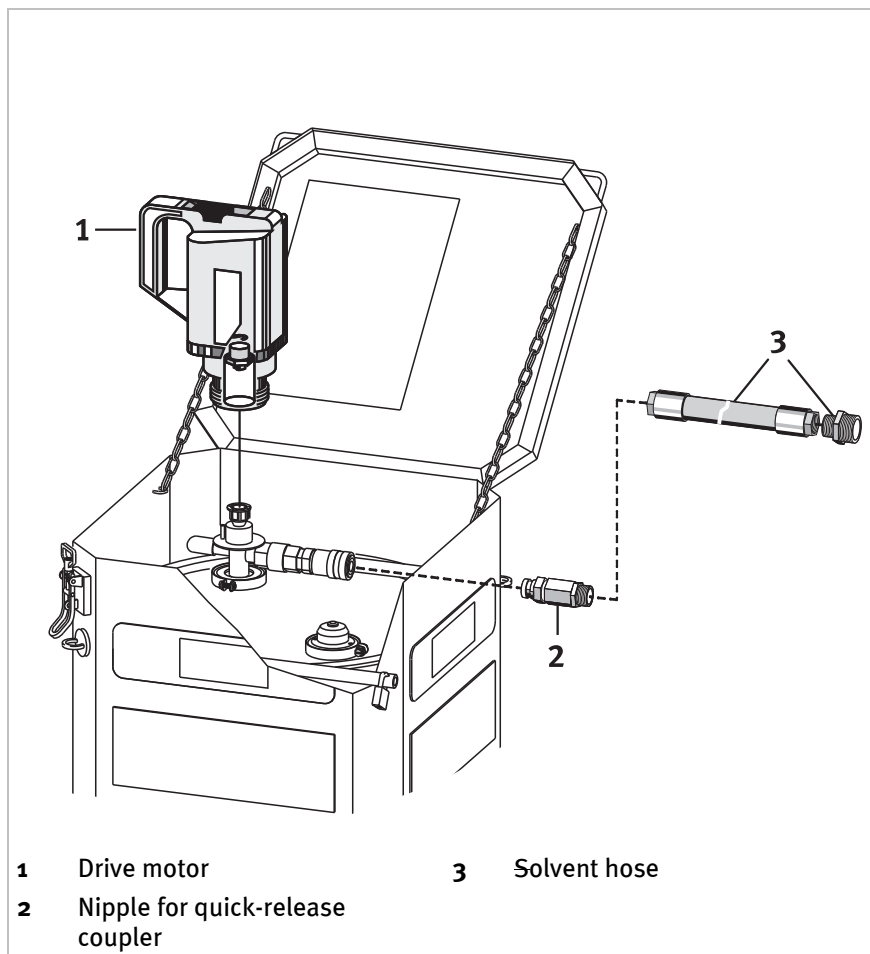

Figure 2: Minimum start-up requirements for SAFE-TAINER system for fresh solvent
- fresh solvent, see figure 2 on page 9